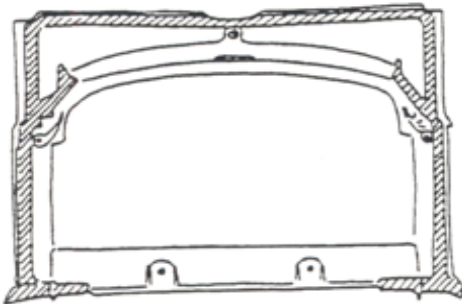

Fig. 7 Front
- Install threaded stems in the tapped holes in the left and right back edges of the stove front. Cement all mating surfaces on the stove front as shown in **Fig. 7**. Put the air manifold in position on the inside of the stove front and secure with one hex bolt, $\frac{1}{4}$ -20 x 2" long.